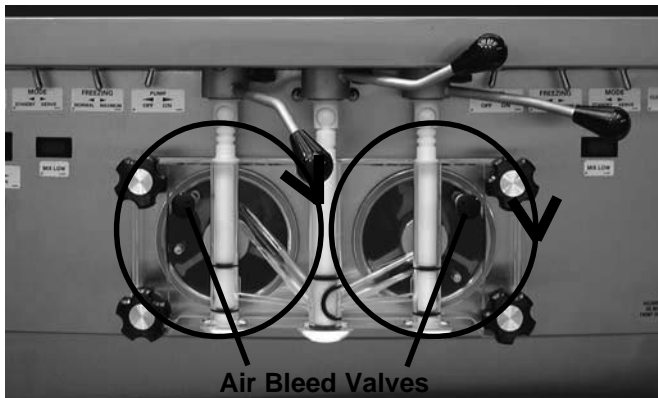

Figure 24. Air Bleed Valves
3. Completely disassemble both hose assemblies and check valve. Place hoses, tee, check valve assembly, and pickup hose adapter in 90° to 110°F (32°C to 43°C), mild detergent water and wash thoroughly. Use soft bristle brushes to clean inside of fittings. Rinse all parts in clean 90° to 110°F (32°C to 43°C) water (see Figure 24).